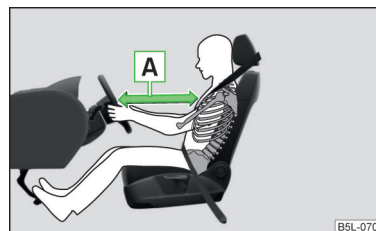

Fig. 9
- It is important that the driver and front passenger maintain a distance of at least 25 cm to the steering wheel or dashboard **A** » Fig. 9. Not maintaining this minimum distance will mean that the airbag system will not be able to properly protect you – hazard! The front seats and the head restraints must always also be correctly adjusted to match the body size of the occupant.